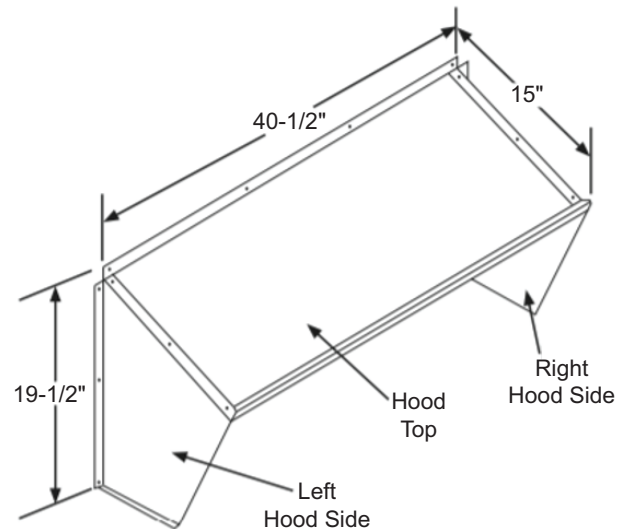

Fig. 36 — CRBARHOD001A00 Hood Sides and Top
5. Using the provided hardware, screw the CRBARHOD001A00 hood sides and top together (see Fig. 36).